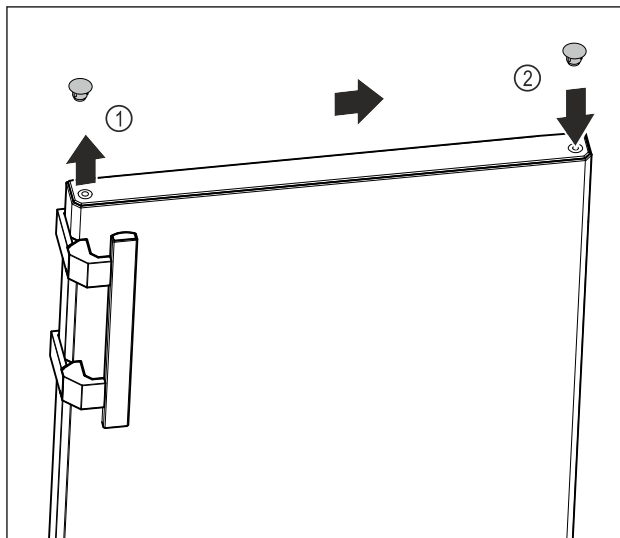

Fig. 13
- Carefully lift the cover plug on the top of the door Fig. 13 (1) with a slotted screwdriver.
- Insert the cover plug on the opposite side. Fig. 13 (2)